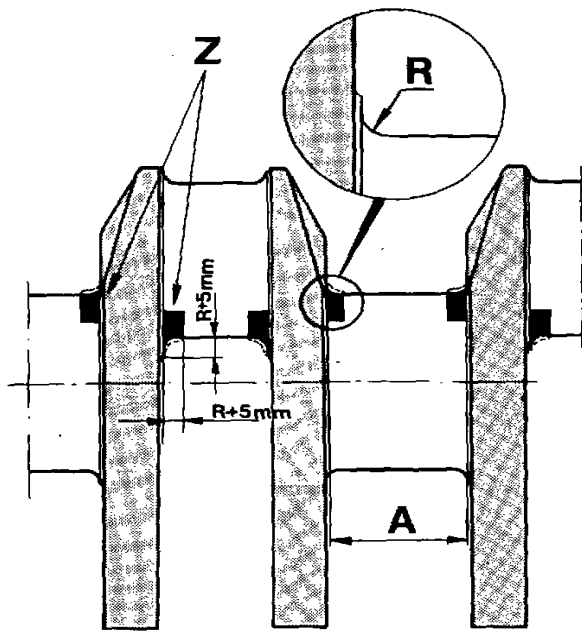

Fig. 89. Crankshaft
- Longitudinal cracks within the area marked Z, fig. 89.
2. When grinding the crankshaft it is extremely important that the fillet radii maintain the correct measurement,  $R=4.2-4.4$  mm (0.165-0.173") for the 60 series or  $R=3.75-4.00$  mm (0.148-0.157") for the 70 series, and the right form and surface finish. Measure the radius with a radius template. The form must follow fig. 89. Grinding marks and sharp edges must not be present as these can give rise to crankshaft fracture.
3. Particular care is needed when grinding the centre bearing journal regarding the width A for the pilot bearing, fig. 89. Regarding measurements, see "Technical Data" on page 5.